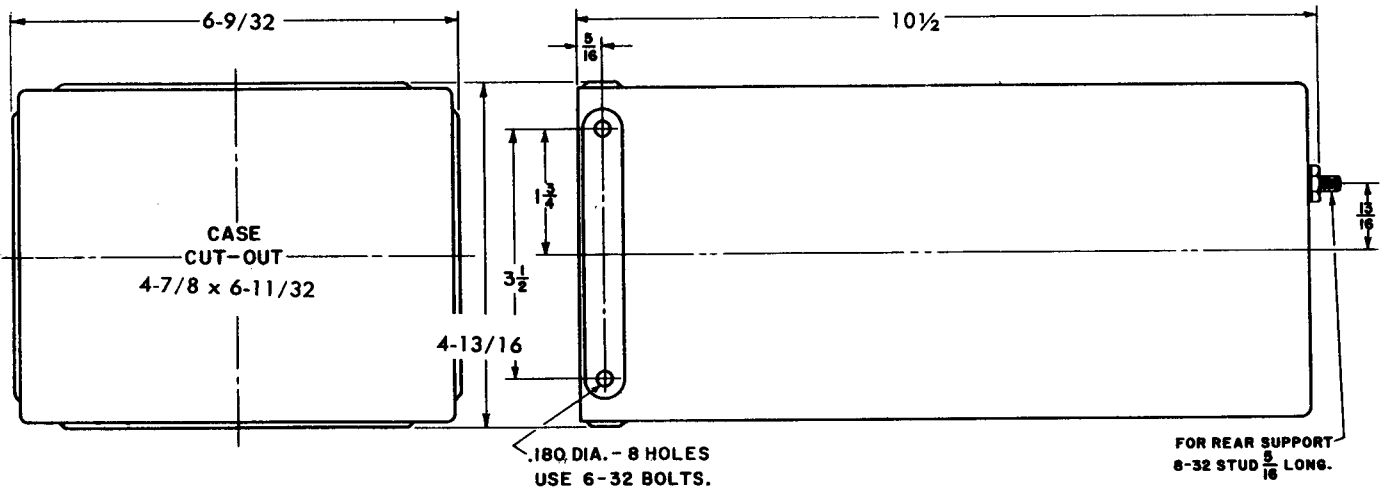

Figure 1. VHF TRANSMITTER-RECEIVER UNIT—MOUNTING DIMENSIONS
A. VHF TRANSMITTER-RECEIVER UNIT (VTR-2A) (See Fig. 1)